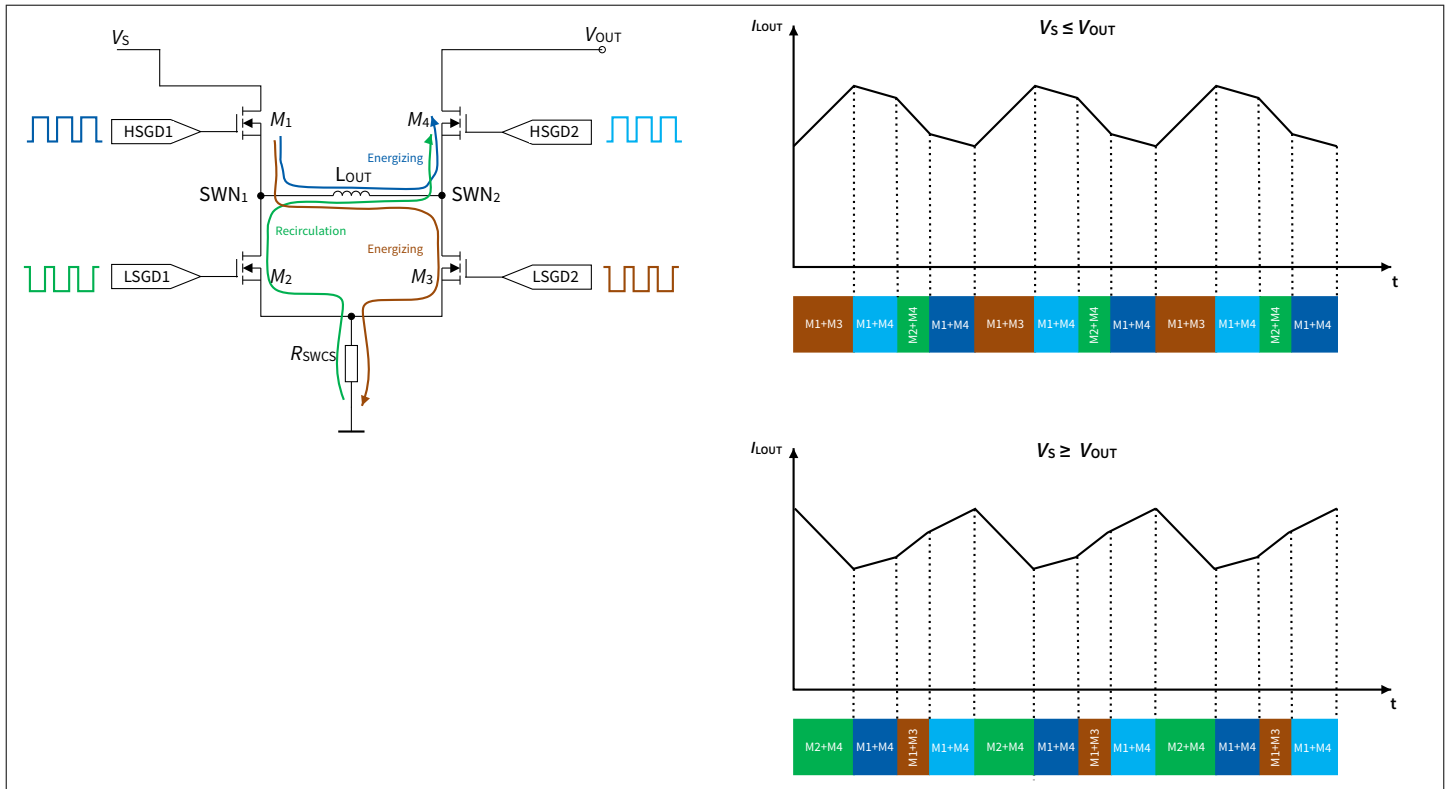

Figure 15 4 switches H-Bridge architecture in BUCK_BOOST mode
- The two buck boost waveforms and switching behaviors are displayed in Figure 15 below